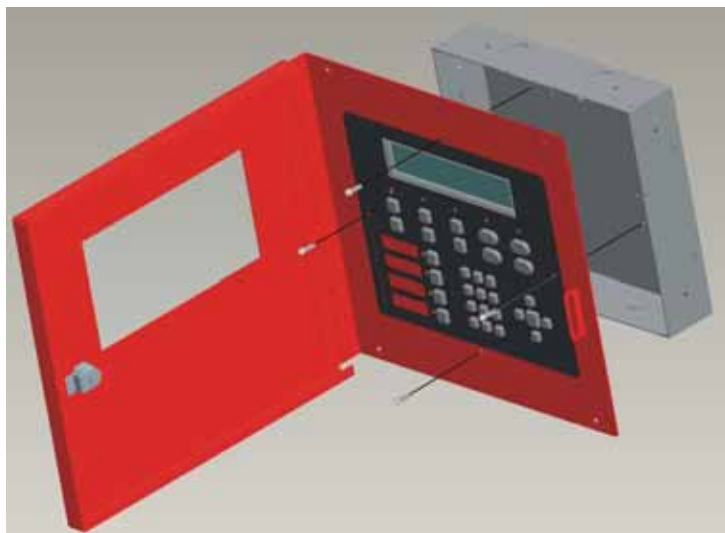

Figure 4-13 Attaching Annunciator/Door Assembly to Backbox
4. Attach the annunciator and door assembly to back box as shown in Figure 4-13 using the supplied screws.